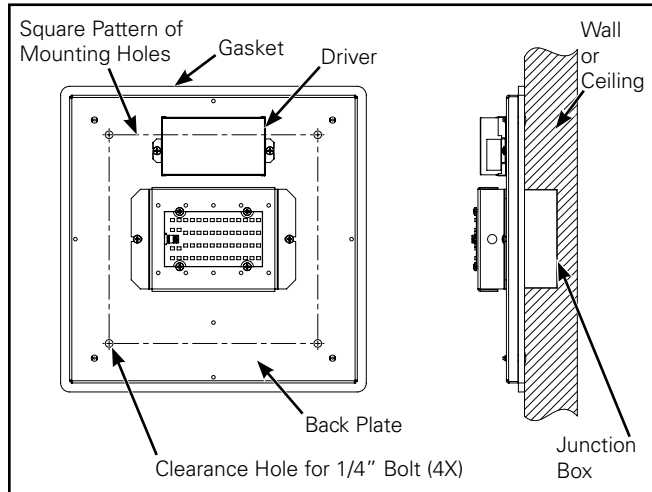

Figure 5. Flat Unit Installation
3. Center mounting plate on flat smooth ceiling or wall over junction box. Use mounting plate as a template to layout fastener locations. (Figure 5).